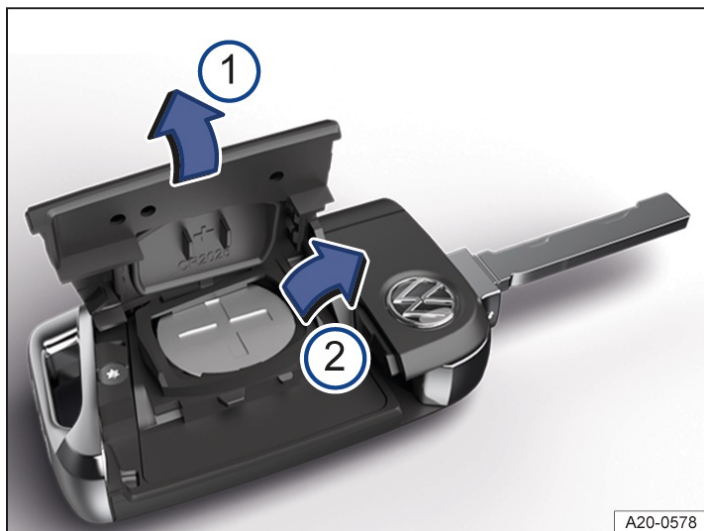

Fig. 1 Vehicle key: replacing the button cell (illustration).
- ① Cover.
- ② Button cell.
2. Prise off the cover → Fig. 1 ①.
3. Lever the button cell out of the battery compartment → Fig. 1 ②, → ⚠.
5. Press the cover onto the housing → Fig. 1 ①, → ⚠.